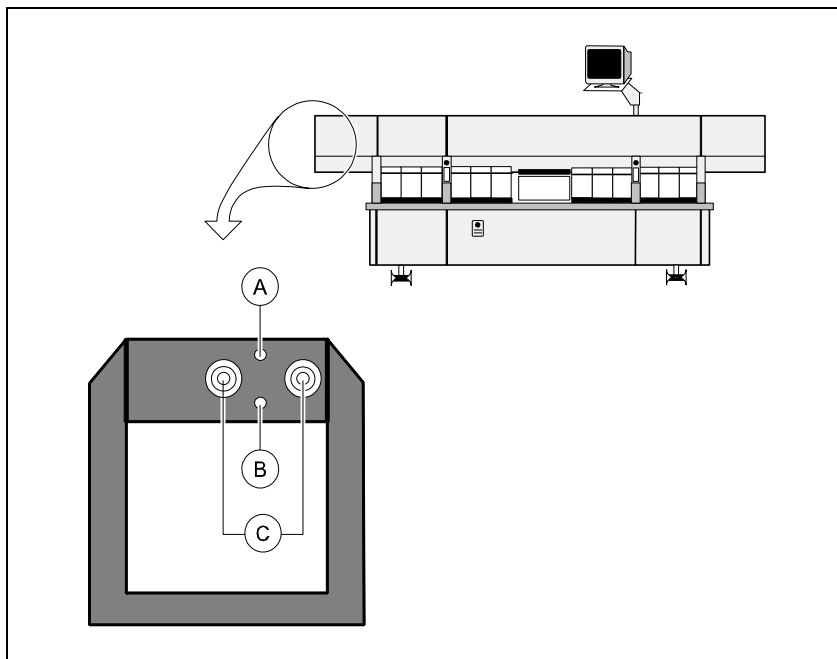

Figure 4-4. Adjusting X belt tension
1. Loosen the A and B fixing screws, see Figure 4-4.
2. Adjust the belt by turning the screws marked C and D in Figure 4-4 as follows: